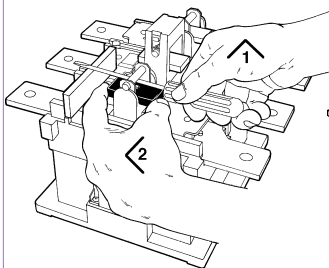

Fig. 2
- Moving main contacts: Lift the respective clamp and press the contact into neutral position. See Fig. 2. Remove the contacts.